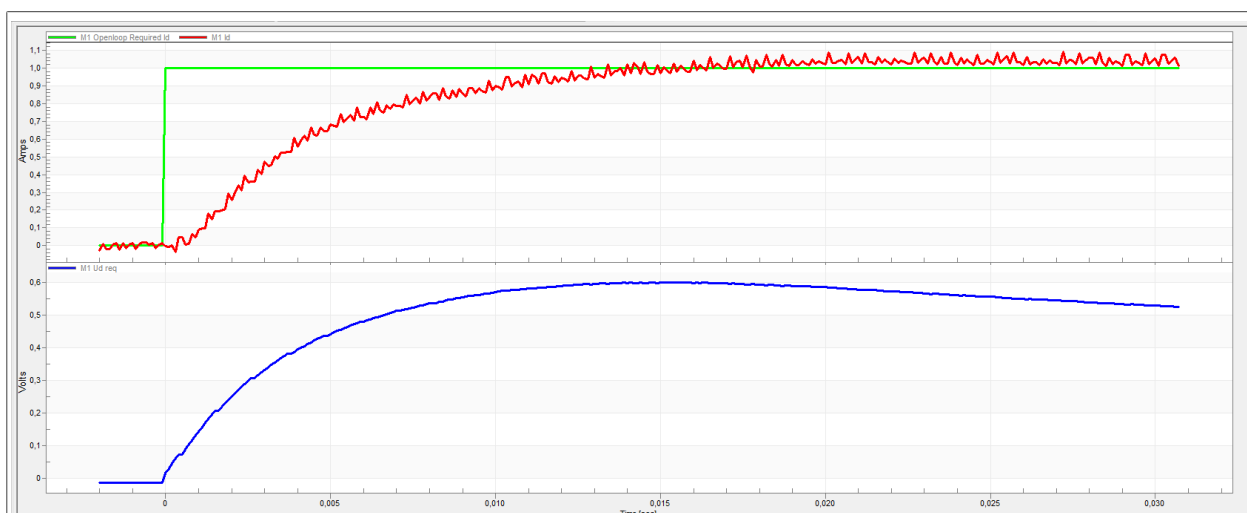

Figure 30. Slow step response of the Id current controller
- The loop bandwidth is low (100 Hz) and the settling time of the Id current is long (Figure 30).